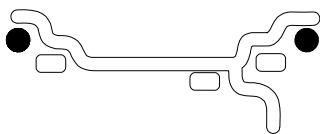

Figure 15
**A. DYNAMIC** (two planes), suggested for all steel rims. In this case the wheel weights must be clipped onto the rim edges. This function is selected as a default and the LEDs corresponding to the wheel weight location are lit on Figure 15.